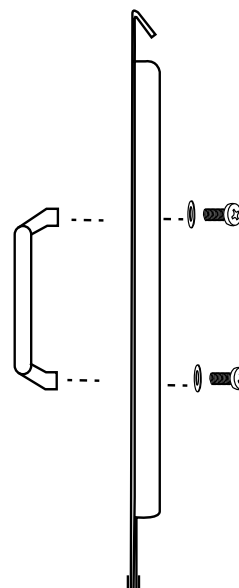

Fig. 2 Shows end view installing handles.
Step 2: Remove handles from package and install them as shown in Fig. 2 with screws and washers.